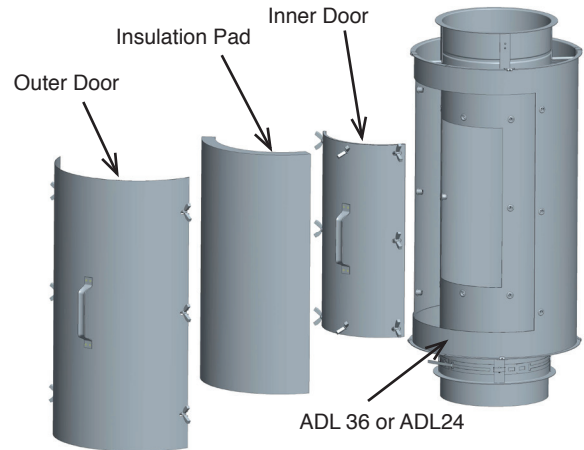

Figure 87: Step 4-5 of Removal for Inspection for the ADL
- 5- Remove the Inner cover and set it in a safe place. **See Figure 87**